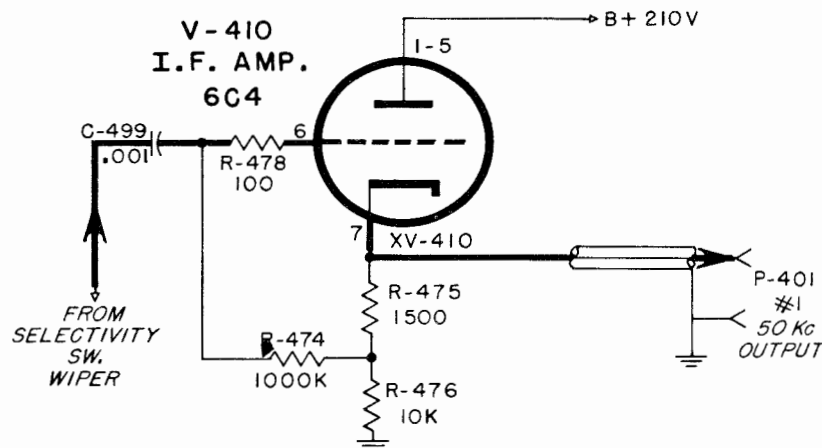

Figure 2-23. I.F. Amplifier V-410, Simplified Schematic Diagram
(3) I.F. AMPLIFIER V-410 (F-99/FRR-24). (See Figure 2-23).—The output of the filter system is capacitively coupled through capacitor C-499 to the control grid of the I.F. amplifier V-410 a type 6C4, employed as a cathode follower. The output of V-410 is connected to coaxial connector J-402 for application to the 50-kc. I.F. amplifier circuits.